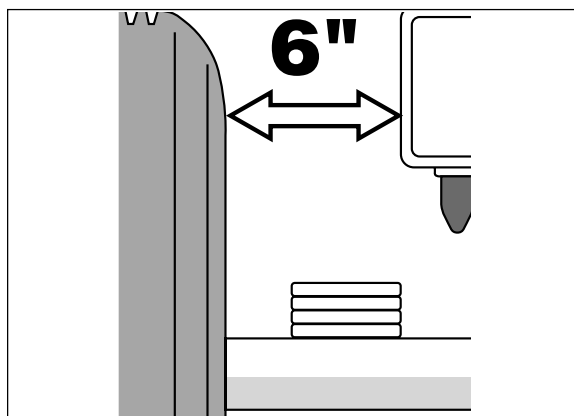

Figure 3
3. Measure the distance between the frame and the tire. This kit requires a minimum of 6" of clearance for a fully inflated air spring (Figure 3).